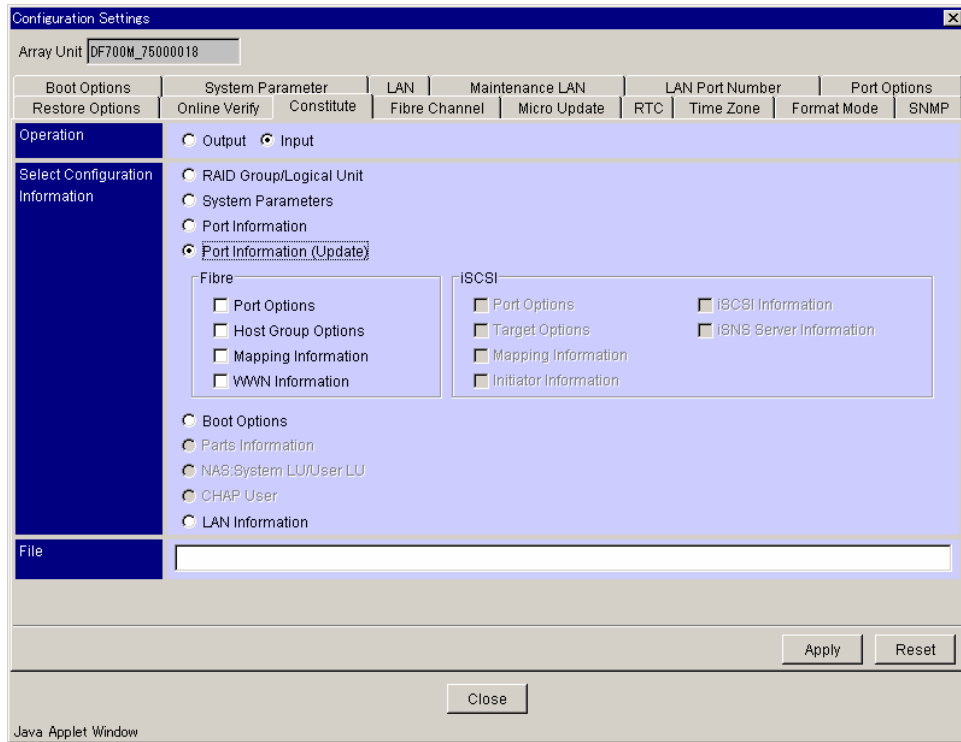

Figure 9.26 Configuration Settings - Constitute panel (input)
2. Click the **Constitute** tab. See Figure 9.26.